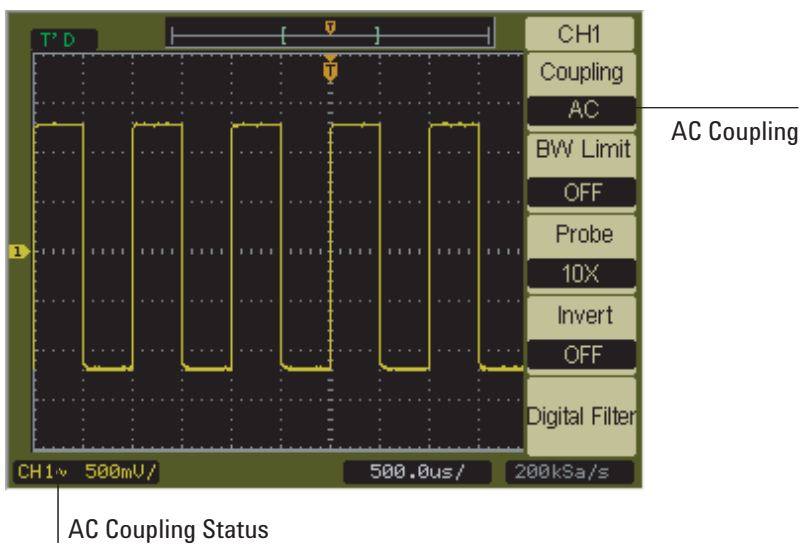

Figure 17 AC Coupling Control
- AC – blocks the DC component of the input waveform and passes the AC component. See Figure 17.